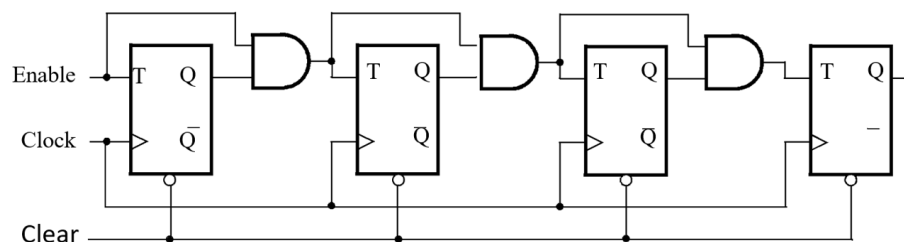

Figure 1. A 4-bit Counter
Consider the circuit in Figure 1. It is a 4-bit synchronous counter which uses **four** T-type flip-flops. The counter increments its count on each positive edge of the clock if the Enable signal is asserted. The counter is reset to 0 by using the Clear (Reset) signal.
1. Inside your Part1 folder, write a SystemVerilog file that defines a **16-bit counter** by using the structure depicted in Figure 1. Your code should include a T flip-flop module (like the one we talked about during class) that is instantiated 16 times to create the counter.
- Use the Quartus II RTL Viewer to see how Quartus II software synthesized your circuit. What are the differences in comparison with Figure 1? Describe your observations at the top of your Part1.sv module.